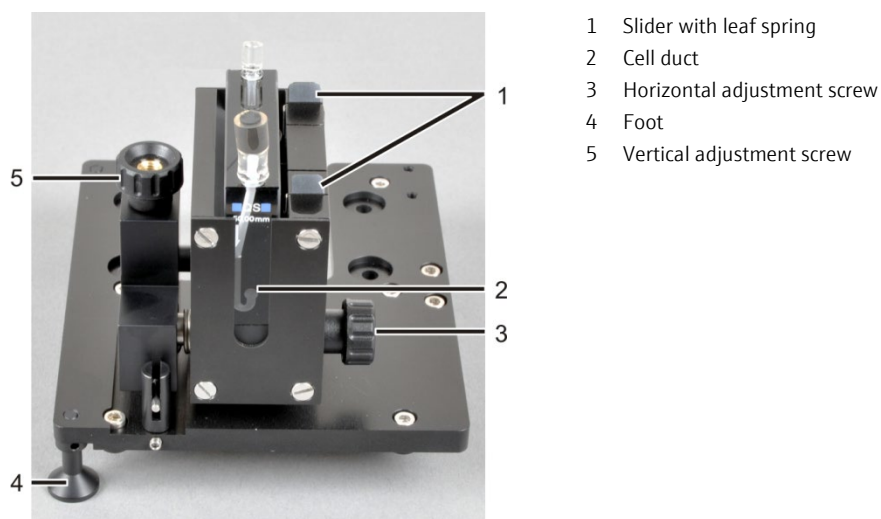

Fig. 22 Adjustable holder for cells (10 to 50 mm) with variable radiation height
- Consecutively turn the screws for vertical and horizontal adjustment (3 and 5 in Fig. 22) until the light hits the paper strip at the center.